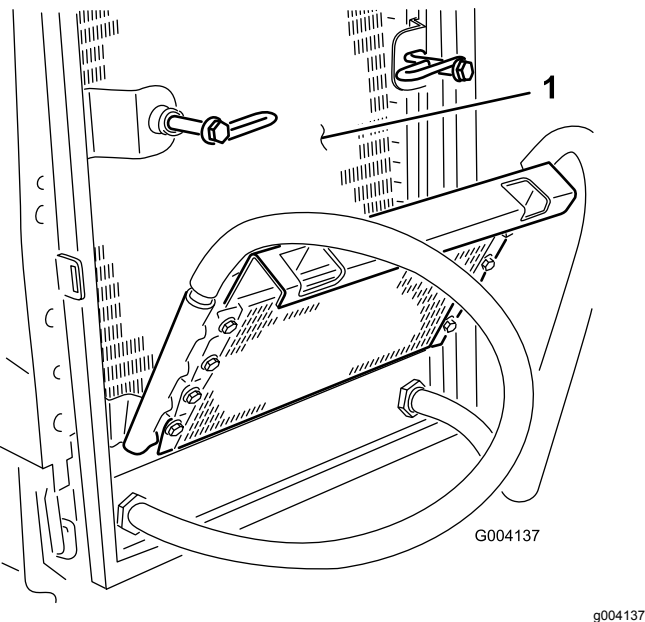

Figure 50
6. Thoroughly clean both sides of the oil cooler and the radiator (Figure 50) with compressed air.